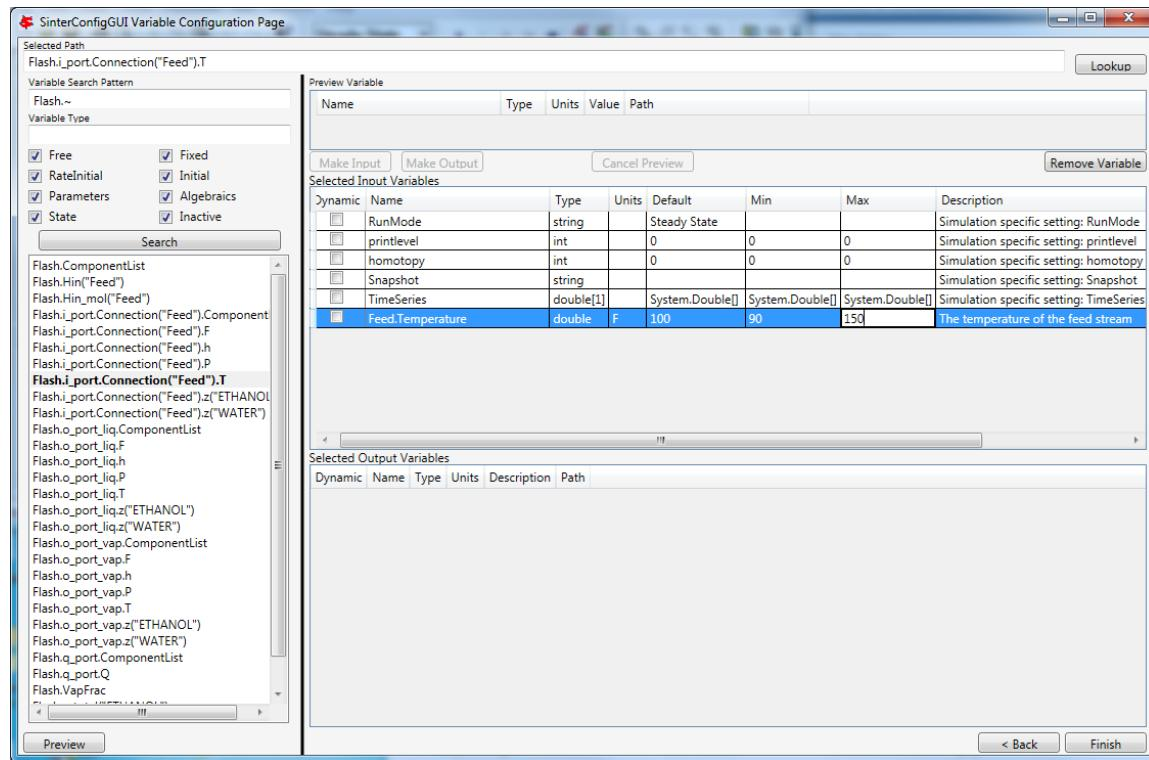

Figure 12: SinterConfigGUI Variable Configuration Page window, Input Variable Name, Description, Min, and Max text boxes.
12. To rename the Selected Input Variable name (e.g., Flash.i_port.Connection("Feed").T) to a more descriptive name, click the “Name” text box and then enter a name. A user can also enter a “Description” and the “Min” and “Max” ranges, as shown in Figure 12.